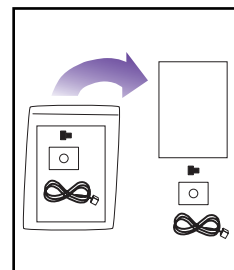

Figure 2
C. Check off (☒) each item in the CPA (Cybex Programming Advantage pack) as you find it. See Figure 2.